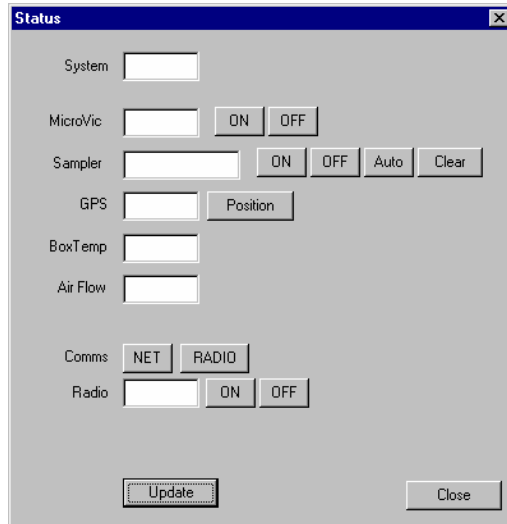

FIGURE 9. Status Window
8. Selecting Status on the menu presents the operator with a panel (Figure 9) that provides remote control and monitoring of several components. Table V describes the functionality of this panel.
POSITION	<ul style="list-style-type: none"> • FIX – GPS has acquired satellites. • MANUAL – displayed when a manual fix is entered (described later in this manual). • ERROR – displayed when data is not being received from the GPS <p>POSITION displays the GPS panel shown in Figure 9.</p>